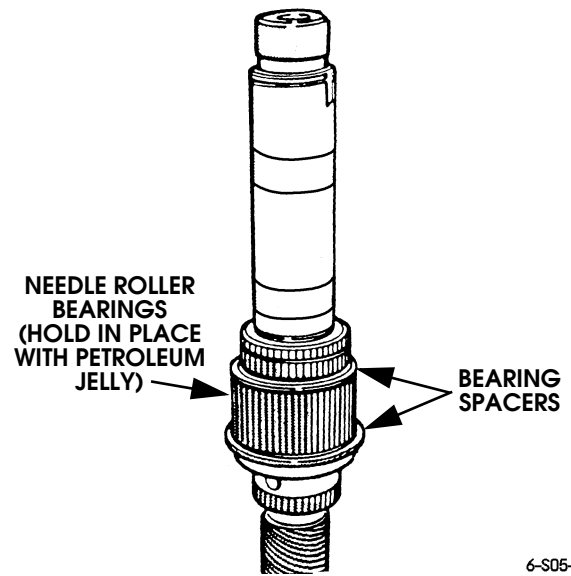

Figure 5-143: Mainshaft Bearing Roller Installation
10. Coat needle bearing surface of mainshaft with petroleum jelly. Then install first spacer, 53 needle bearings, and remaining spacer. Use extra petroleum jelly to hold needle bearings in place (Figure 5-143).